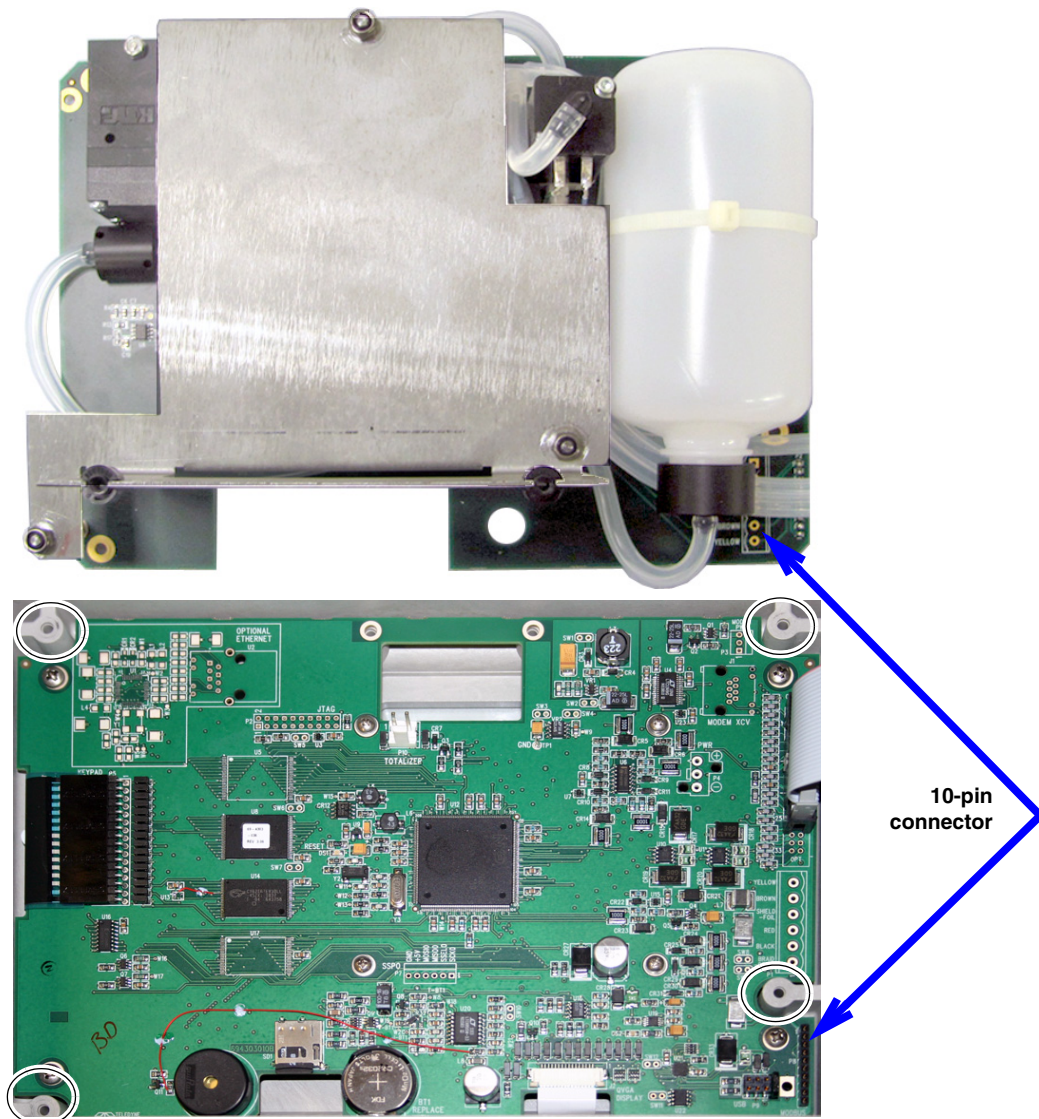

Figure 6-9 330 Bubbler assembly installation
**6.6.9 Installation Procedure** Referring to Figures 6-9, and 6-11, perform the following steps.